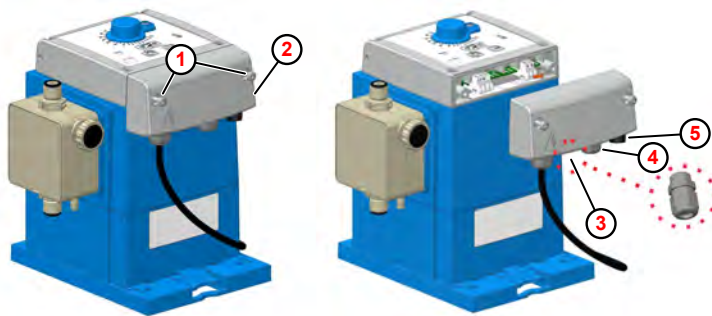

Fig. 11: Electrical installation 'EcoUp'
( Fig. 11 , ② )
1. ▶ Loosen the two housing screws ( Fig. 11 , ① ). The screws are secured against falling out.
2. ▶ Remove the terminal cover ② .
3. ▶ To connect a metering volume or alarm output, mount the supplied M12x1.5 cable gland in the appropriate place ③ , run the cable, tighten the screw connection and the connect cable wires according to the terminal diagram.
4. ▶ To connect to the pulse input or enable input, pass the cable through the cable union ④ tighten the threaded union and connect the cable wires according to the terminal diagram.
5. ▶ The connection for the level input must be connected to the socket ⑤ provided for this purpose.
6. ▶ After all installation work has been completed, fit the terminal cover ② and tighten the fixing screws ① .
The terminals can be accessed after removing the terminal cover ( Fig. 11 , ② ).